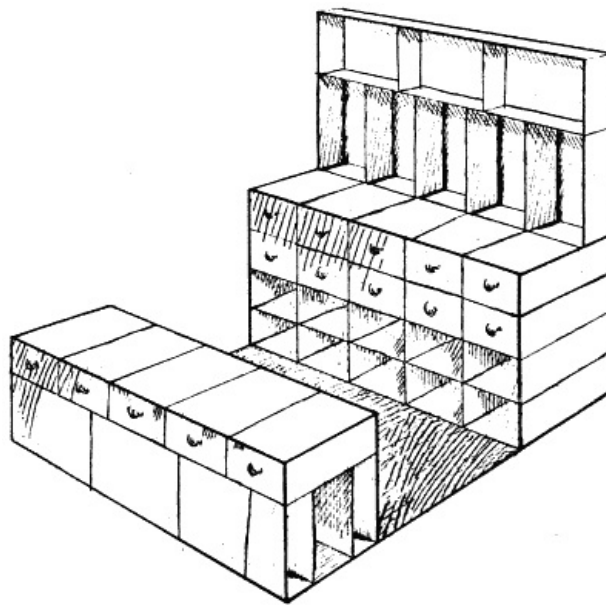

FIG. 25.
*Model Stores.*—Once again this will be best understood by reference to the illustration (Fig. 25). The stores consist of a counter and a back fitment—the two mounted on a base board. For the counter, five complete match boxes should be glued side by side and then mounted on six empty covers. The trays of the five complete boxes should then be given handles to make them into drawers. For these handles nothing can beat a boot button. The small metal loop is pushed through a hole in the end of the tray, and then secured in position by means of a tiny wooden wedge pushed through the loop on the inside.